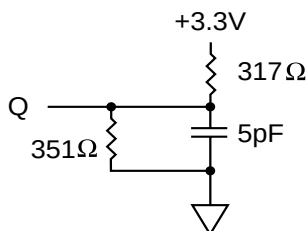
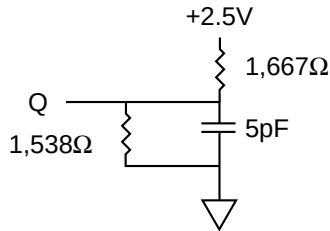

Figure 2
Figure 4
- The load used for V_{OH}, V_{OL} testing is shown in Figure 2 for 3.3V I/O and Figure 4 for 2.5V I/O. AC load current is higher than the shown DC values. AC I/O curves are available upon request.